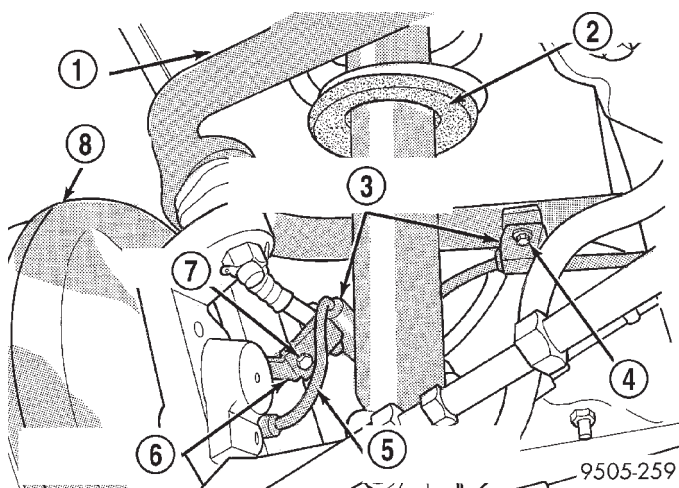

Fig. 6 Speed Sensor Cable Attachment To Control Arm
(9) Install the wheel speed sensor cable routing clip on the upper control arm mounting bracket (Fig. 6). Install and securely tighten attaching bolt.
(10) Install wheel and tire assembly on vehicle. Tighten the wheel mounting stud nuts in proper sequence until all nuts are torqued to half specification. Then repeat the tightening sequence to the full specified torque of 135 N·m (100 ft. lbs.).
(11) Lower vehicle to the ground.
(12) Check and reset if required, rear wheel alignment (camber and toe) to meet the preferred specifications.